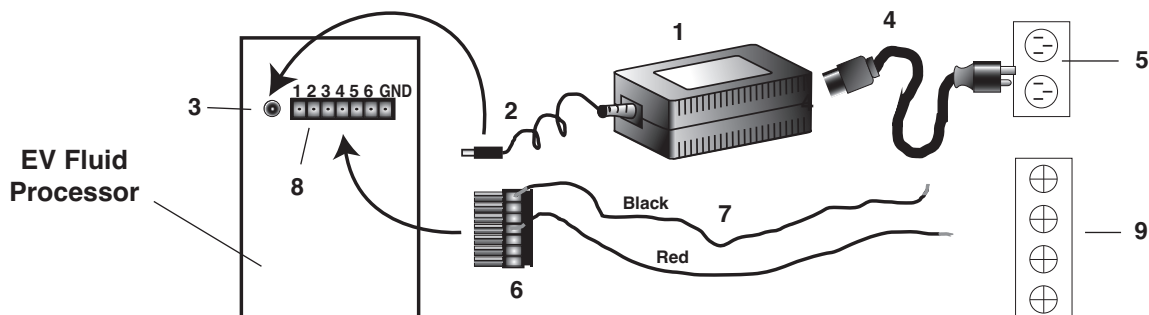

Fig. 4. Electrical and communications connections to EV Fluid Processors. Drawing shows wiring for 1-line control.
1. See Figure 4 for an illustration of the electrical connections.
1. All electrical and communications connections to the EV Fluid Processor are made in the rear of the unit (see Figure 4):
- a) Plug the Power Supply (1) male-barrel terminal (2) into the EV Fluid Processor female port (3).
- b) Plug the IEC 320 connector (4) of the Power Line Cord into the Power Supply (1).
- c) Plug the opposite end of the Power Line Cord into a properly grounded power source (5). The *Universal Power Supply* can be operated from *inputs* of a 100 240 VAC, 50-60 Hz. The *output* is 24VDC, 1.7A.
1. To operate the EV Fluid Processor manually, connect the Power Supply to it as described in the Installation section (V.), Figure 4.
2. Pressing the Local-Remote button (1) selects either Local (manual) or Remote (automatic) operation.
- a) The EV Fluid Processor must be in Local (manual) mode to use the manual (forward or backward) position selection buttons. Manual mode can be confirmed by observing that the Local indicator light (3) is illuminated.
3. The LED display (4) indicates the active valve/column position.
4. Pressing the forward position selector button (5) moves the valve one position in the clockwise (or numerically higher) direction each time that the button is depressed.